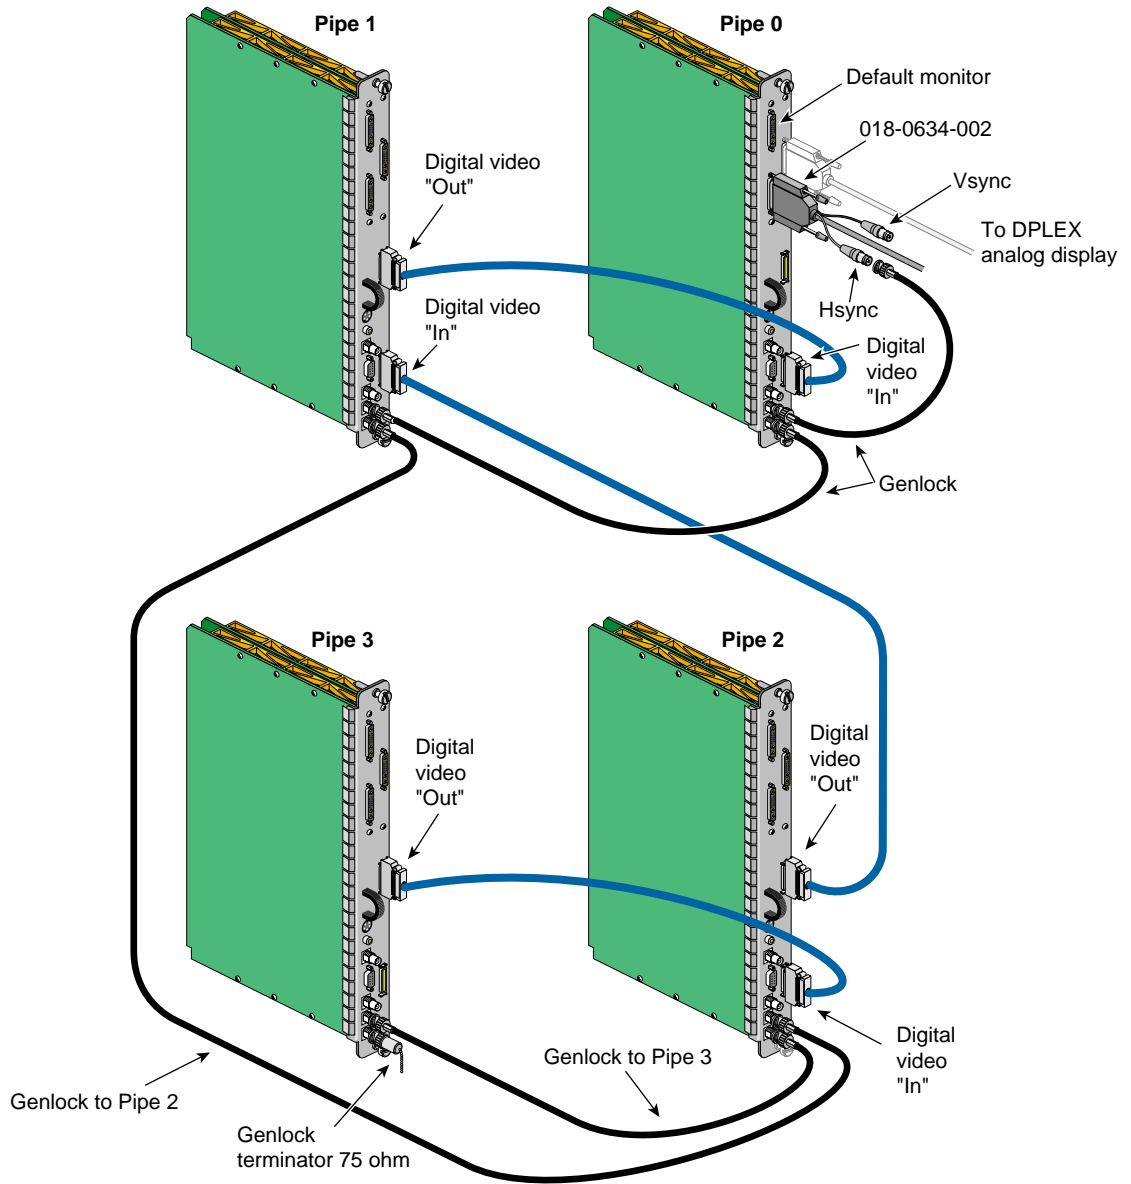

Figure 2-6 Four-Pipe Genlock and LVDS Cabling Example (Internal Genlock)
- For internal genlock connect the 018-0634-002 cable to the pipe 0 13W3 monitor 1 connection on the DG5 board, and cable the H sync connection into the genlock input of pipe 0. Figure 2-6 shows an example.
6. Connect an LVDS cable from digital video out on pipe 1 to digital video in on pipe 0. Figure 2-6 shows the four DPLEX pipes with the LVDS and genlock cables connected.